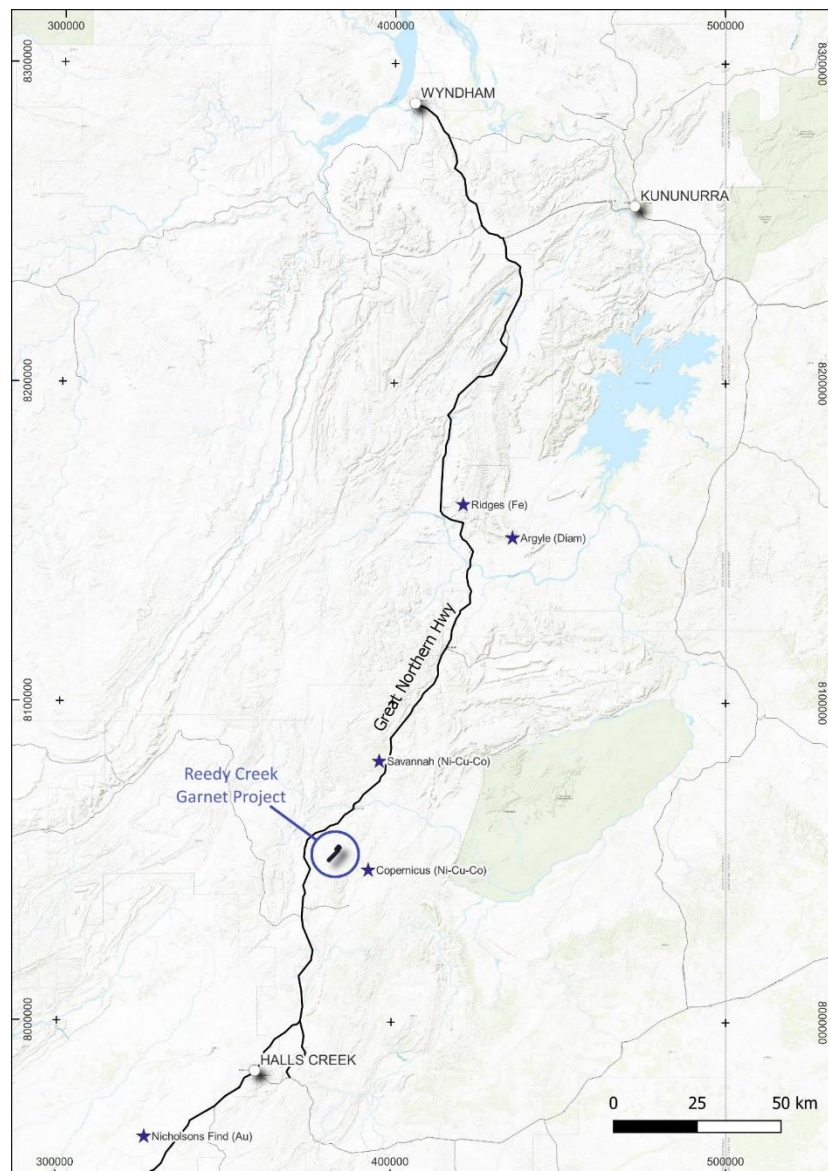

Figure 2: Location of the Garnet Hills
- This supplements Figure 2 (location of Garnet Hills) already provided in the earlier announcement .
The Garnet Hills represents a high-grade industrial garnet deposit located 90km north of Halls Creek, situated adjacent to the Great Northern Highway and established infrastructure. The Wyndham port is approximately 280km by road (Figure 2). The mapped garnet skarn sits within a granted mining lease (M80/416) and outcrops over a strike length of ~5 km with significant potential for resource growth outside of current drilling extents. Historical drilling and mapping have identified multiple lenses of garnet, of variable thickness and are hosted within a thick marble horizon.